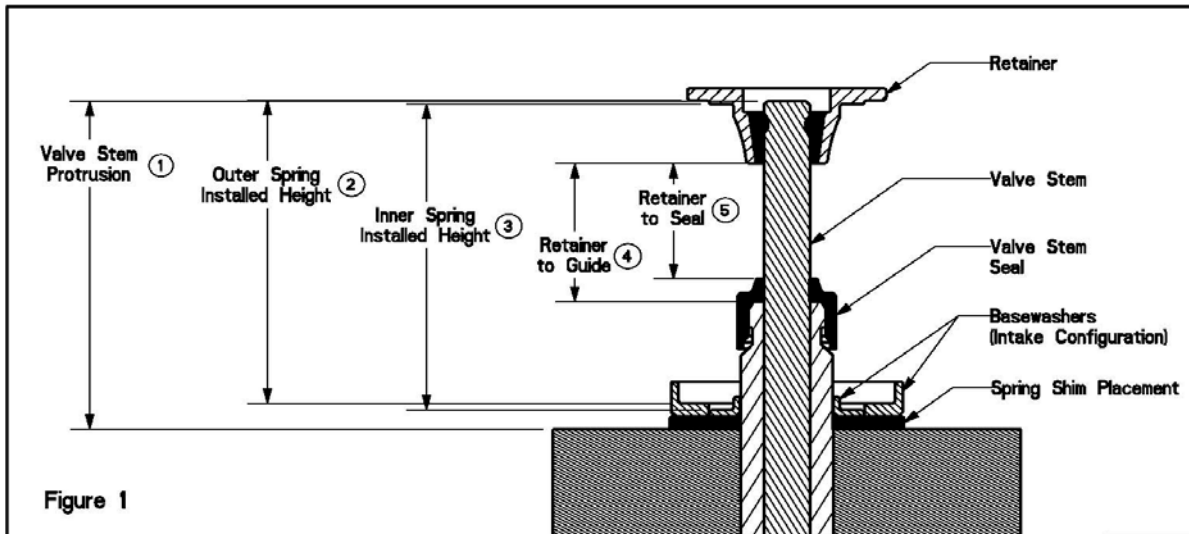

Figure 1
Note: When shimming to achieve the recommended install height only use shims that support both the inner and outer basewashers. (See Figure 1)
1. Stem Protrusion is measured from the tip of the valve stem to the cylinder head. See Figure 1.
2. Outer spring installed height is measured where the outer spring contacts the retainer and lower component when assembled. See Figure 1.
3. Inner spring installed height is measured where the inner spring contacts the retainer and lower component when assembled. See Figure 1.
4. Retainer to guide clearance is the distance between the valve guide (w/o the seal) and the bottom of the retainer, with the valve in the closed position. See Figure 1 and Notes 3 & 4.
5. Retainer to seal clearance is the distance between the valve stem seal and the bottom of the retainer, with the valve in the closed position. See Figure 1 and Notes 3 & 4.